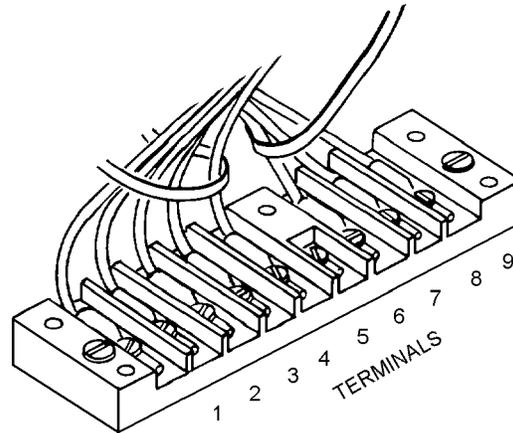

Figure 4-19. Terminal Strip
1. If not previously removed, remove screw from terminal (3) and remove two lead wires from terminal strip (figure 4-19).